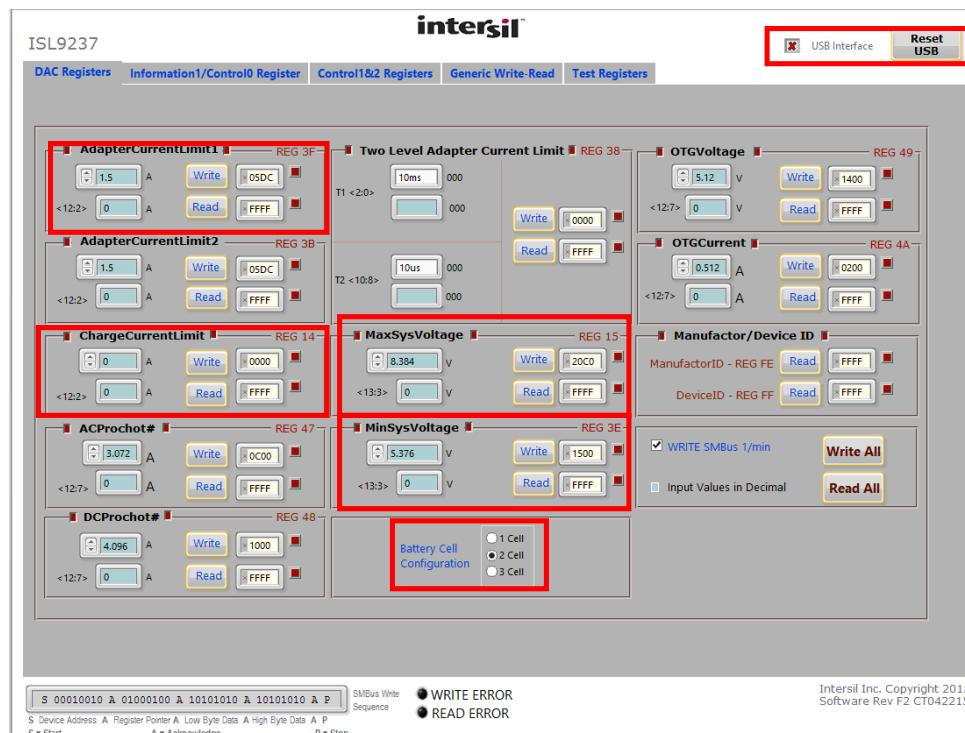

FIGURE 2. GUI SNAPSHOT
programming options. After the default number of cells in series are set, the default values for MaxSystemVoltage and MinSystemVoltage are set accordingly. These values can also be changed through the SMBus control registers, which are implemented with the Intersil GUI, shown in Figure 2 on page 3.
4. Turn on the power supply; LED 3 goes out. Then turn on the battery emulator and open Intersil ISL9237 GUI (Figure 2 on page 3). Note: The USB interface with a green tick means the GUI is ready to communicate with the evaluation board. If the USB interface shows a red cross, the GUI is not ready to communicate with the evaluation board. Click the "reset USB" button until a green tick shows in the USB interface. If not green, check the USB connection.